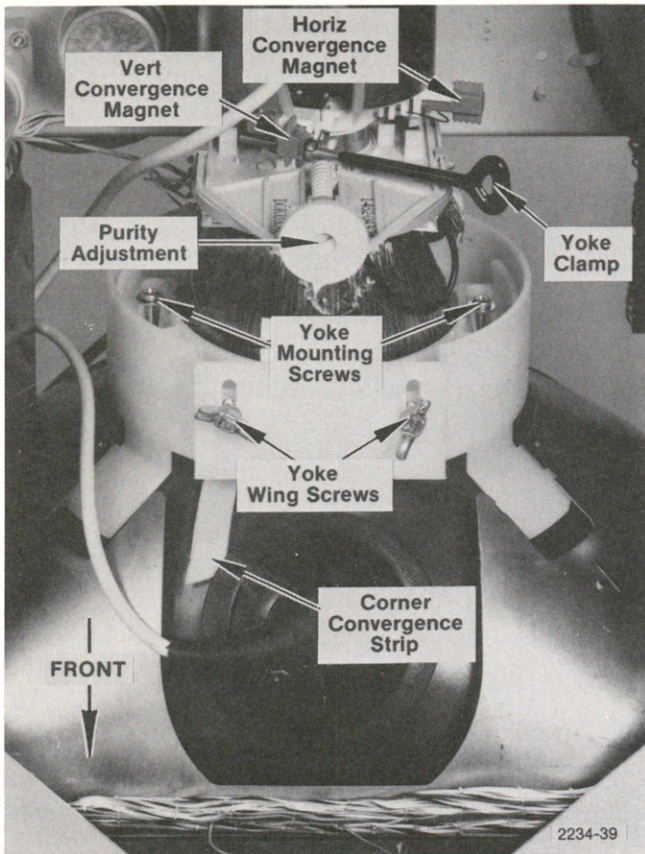

Fig. 6-22. Kinescope neck components.
f. ADJUST—Turn the Purity adjustment (see Fig. 6-22) to obtain a uniformly red display. If further improvement is necessary, loosen the yoke clamp and wing screws. Slide the yoke forward or back to obtain best red screen display. Display a convergence crosshatch pattern. Rotate the yoke so that the center vertical line is vertical. Retighten the yoke clamp and wing screws. Display a 100 IRE flat field signal. If necessary, readjust the Purity adjustment. If there is still some impurity, use a hand-held degaussing coil to completely degauss the monitor.
d. ADJUST—Left front-panel VERT STATIC R7270 and HORIZ STATIC R7470 for proper convergence within the central area. Adjust the vertical and horizontal convergence magnets (see Fig. 6-22). The magnet can be pulled out part way and rotated to obtain best convergence. The magnet has least affect on convergence if the magnet is oriented so that the tabs are aligned parallel with the neck of the kinescope; see horiz convergence magnet in Fig. 6-22.